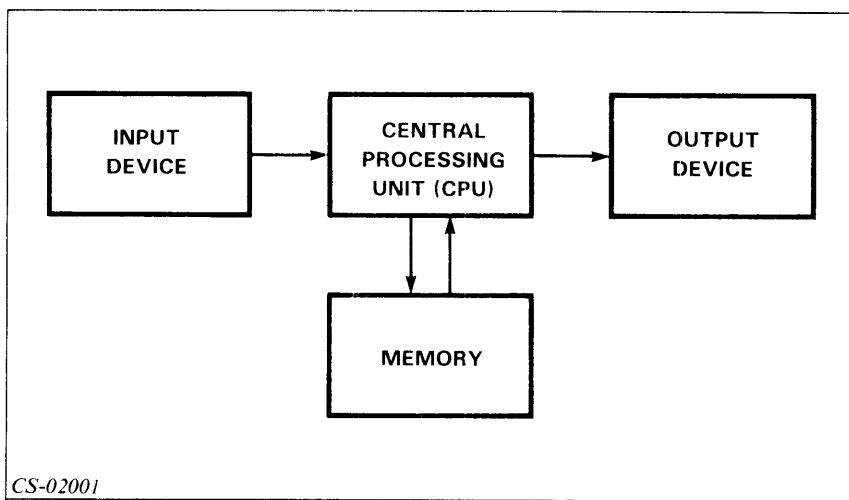

Figure 1.4 Segment A: Exercise Answer
5. Compare your drawing to Figure 1.4.